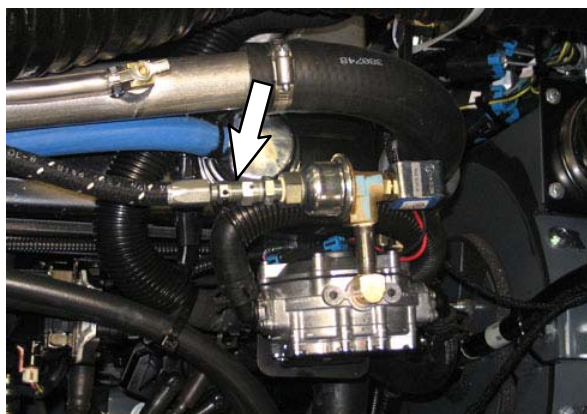
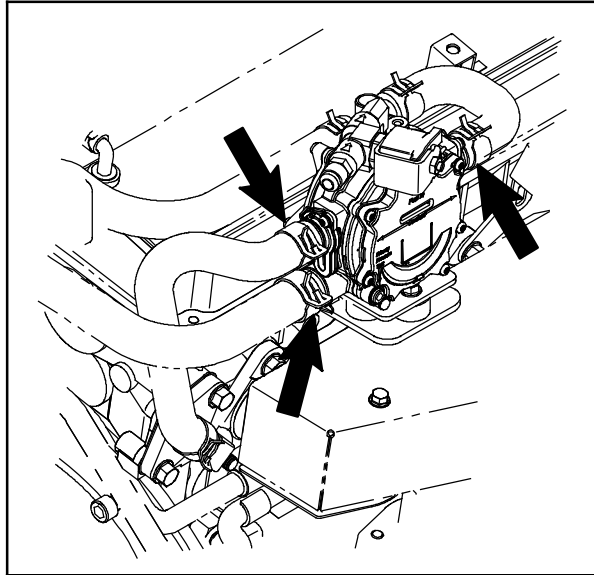

FIG. 5
FIG. 6
2. Loosen the LPG line at the lock off to allow any remaining fuel to drain from the line and then disconnect the fuel line from the lock off after all fuel has drained from the line. (Fig. 5)
3. Use pinch clamps to pinch the coolant hoses connected to the vaporizer. (Fig. 6)
4. Disconnect the coolant hoses from the hose fittings connected to the vaporizer. Set the hose clamps aside. (Fig. 6)
18. Reconnect the coolant hoses and LPG line to the vaporizer (1). Remove the pinch clamps from the hoses. (Fig. 5 / Fig. 6)